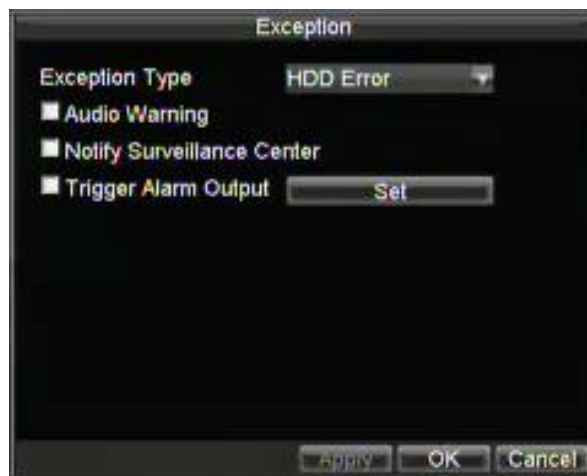

Figure 7. Exception Menu
1. Enter Exception menu, shown in Figure 7 by clicking Menu > Exception.